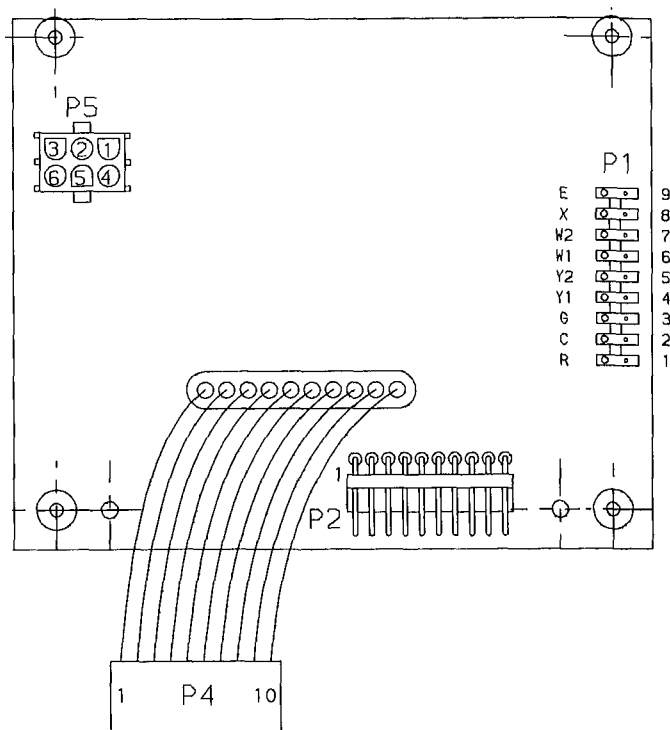

Fig. 36 — Economizer Board
2. Check continuity between points shown below. (See Fig. 36 for identification of points on the board.)